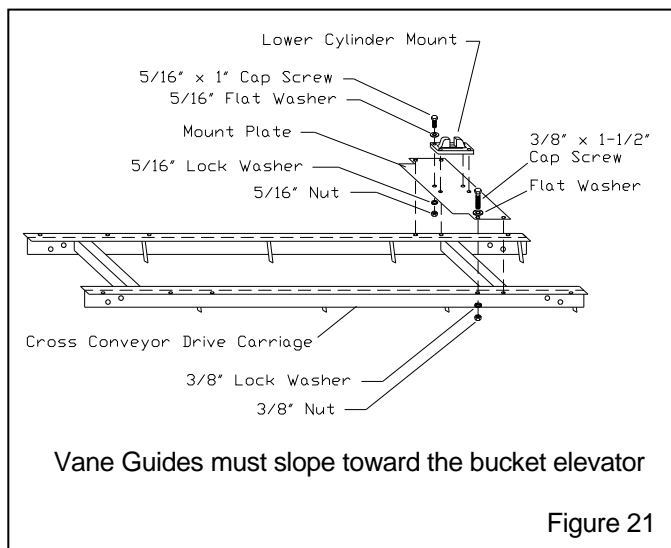

Figure 21
2.7.3.9 Assemble the lower cylinder mount and mount plate to the cross drive carriage as shown in Figure 21. **NOTE:** The vane guides must slope toward the bucket elevator